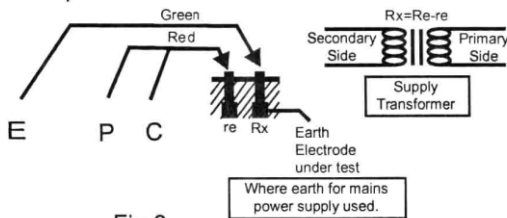

Fig.3
(3) Simplified earth resistance measurement method:
- a. This method is recommended where an earth resistance higher than 10Ω is measured or where it is not possible to drive auxiliary earth spikes. An approximate value of earth resistance can be obtained by the two-wire system as shown in Fig.3.